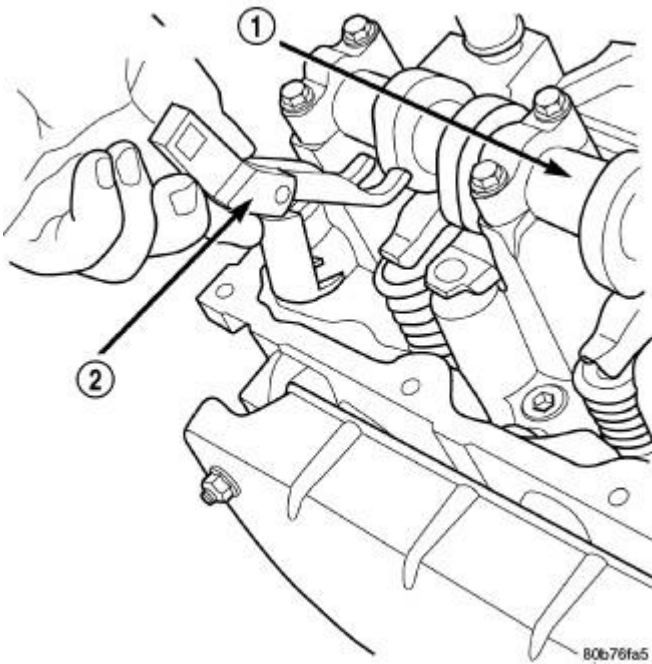

Fig. 67: Rocker Arm - Removal/Installation
6. Using the Rocker Arm Remover/Installer (special tool #8516A, Remover/Installer) (2) , press downward on the valve spring, remove rocker arm. Refer to **Fig. 67**.